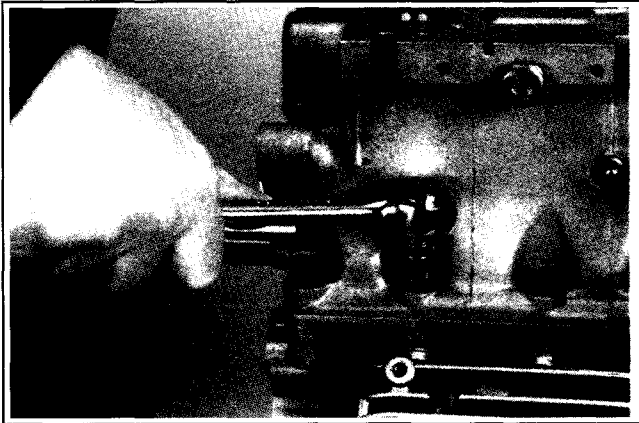

Figure 9-42. Removing the M8x40 mm Hex. Flange Screws.
- Using the engine stand (the largest piece in set 28 761 02, see Section 2, "Special Tools"), turn crankcase assembly upside down so that the lower half is on top. Remove the remaining 10 crankcase screws holding the crankcase halves together. PTO side has two 115 mm long screws; all others are 40 mm long. See Figure 9-42.